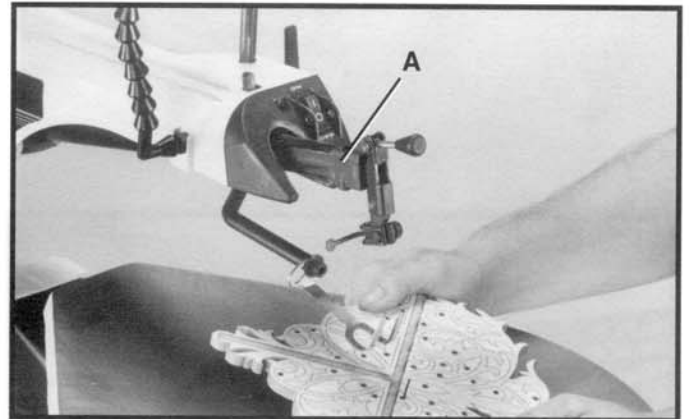
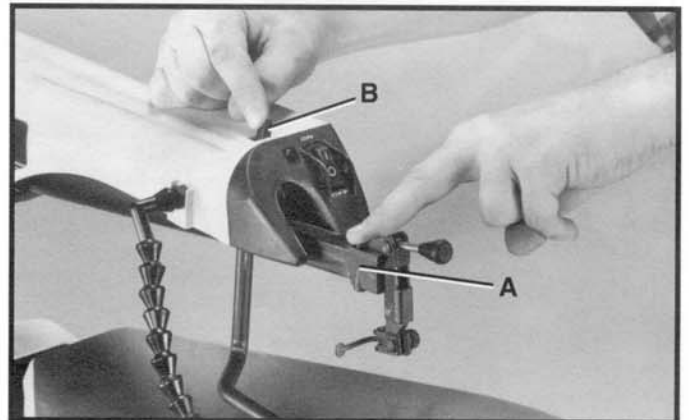

Fig. 44
Fig. 45
When the blade breaks during operation, upper arm (A) Fig. 44, will automatically position itself as shown. To release upper arm (A) Fig. 45, turn saw off and simply press upper arm release lever (B) and press down on upper arm as shown.